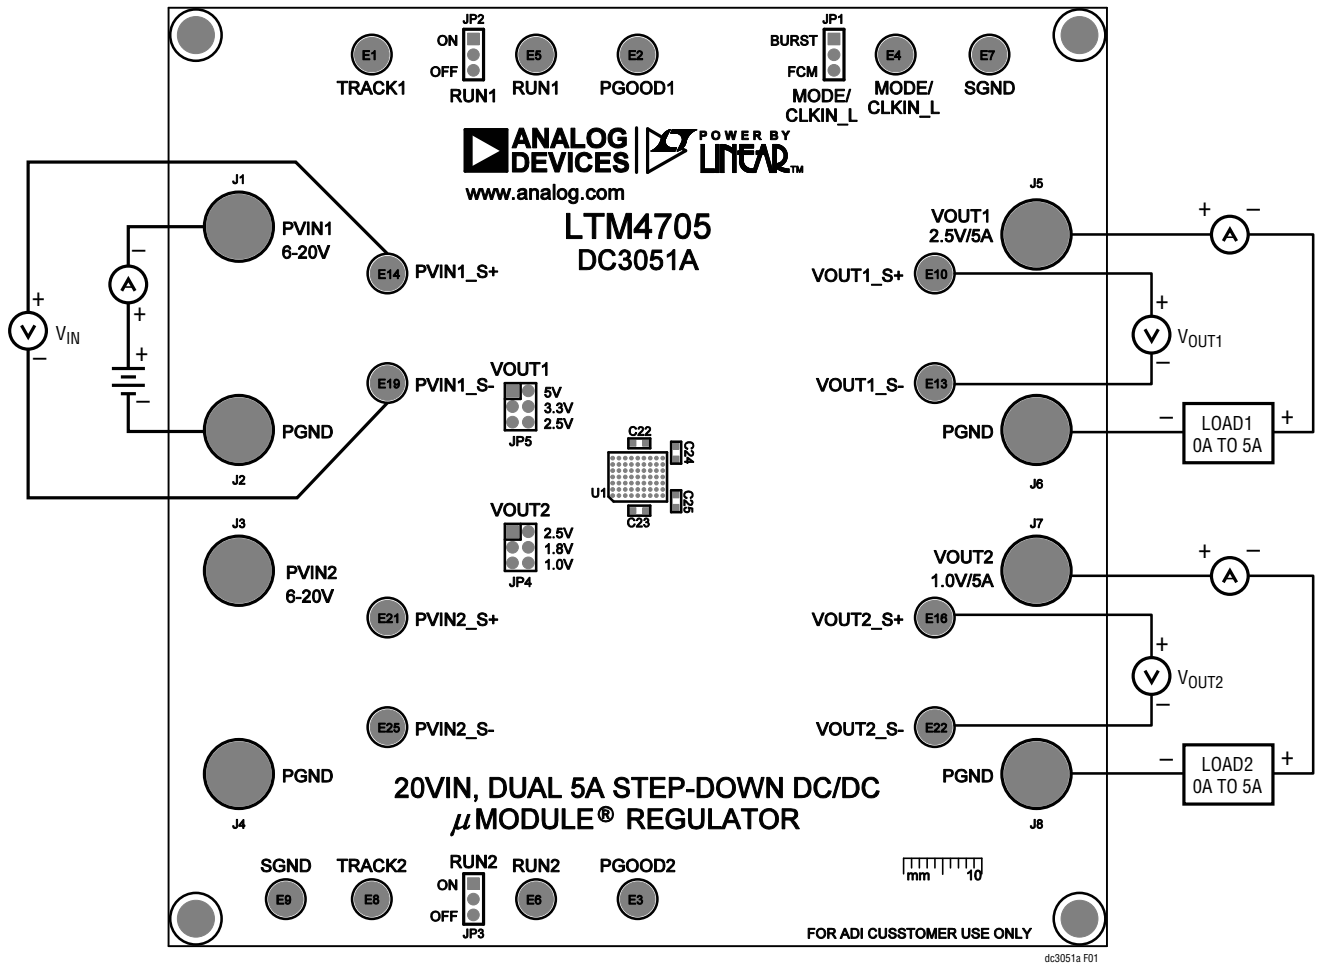

Figure 1. Proper Measurement Equipment Setup
Demonstration circuit 3051A provides an easy way to evaluate the performance of the LTM4705. Please refer to Figure 1 for test setup connections and follow the procedure below.
2. Connect the output loads between V_{OUT} and GND (Initial load: no load). Refer to Figure 1.